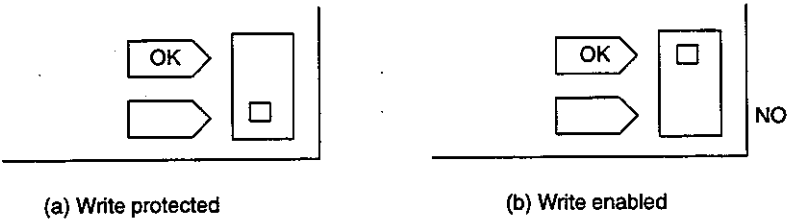

Figure 6.89
- (1) The Attach Operation is not required when the PLC is already online.
- (2) Select File Overview. The file name will be displayed. (See Figure 6.89)